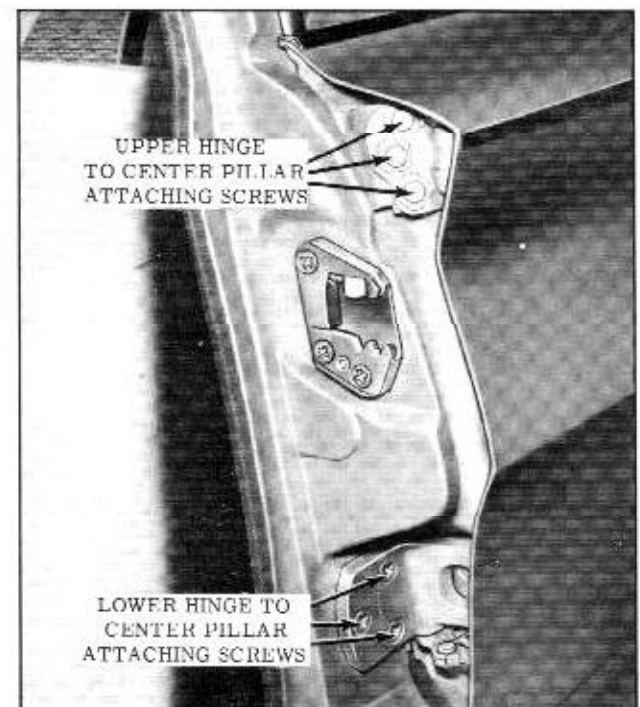

Fig. 15-36 Rear Door to Center Pillar Attachment
2. With door properly supported, remove upper and lower hinge attaching screws at door hinge pillar or screws and bolts at center pillar, depending on method of removal being used. (Fig. 15-36)